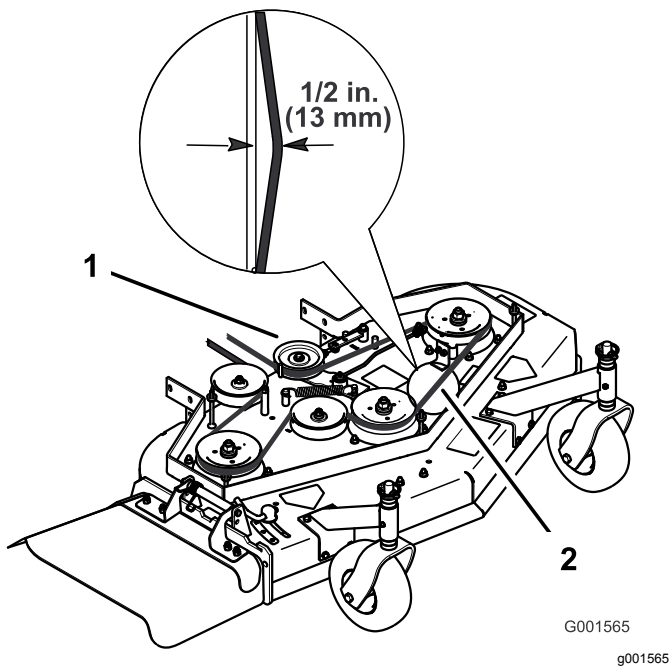

Figure 43
- Rotate the turnbuckle toward the front of the machine to decrease the tension on the belt (Figure 43).